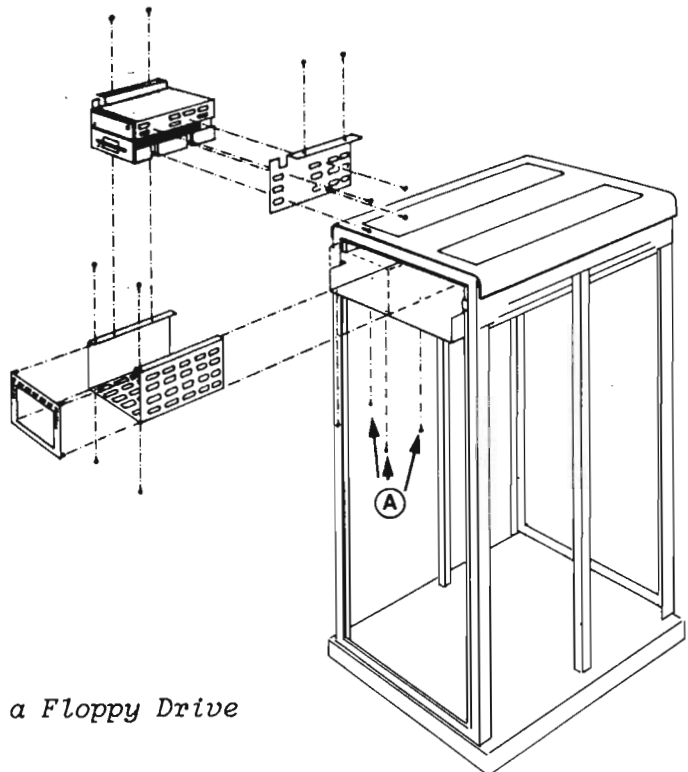

Figure 26. Changing a Floppy Drive
3. Unscrew the four screws (A) holding the floppy housing and pull the housing out.
4. Disassemble the floppy housing and replace the floppy. See figure 26).